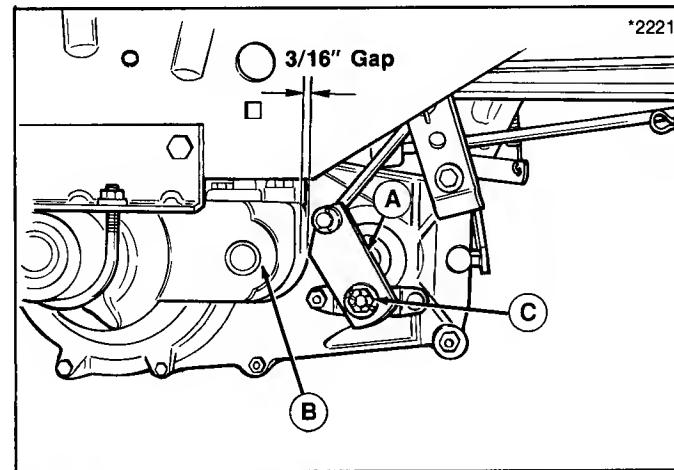
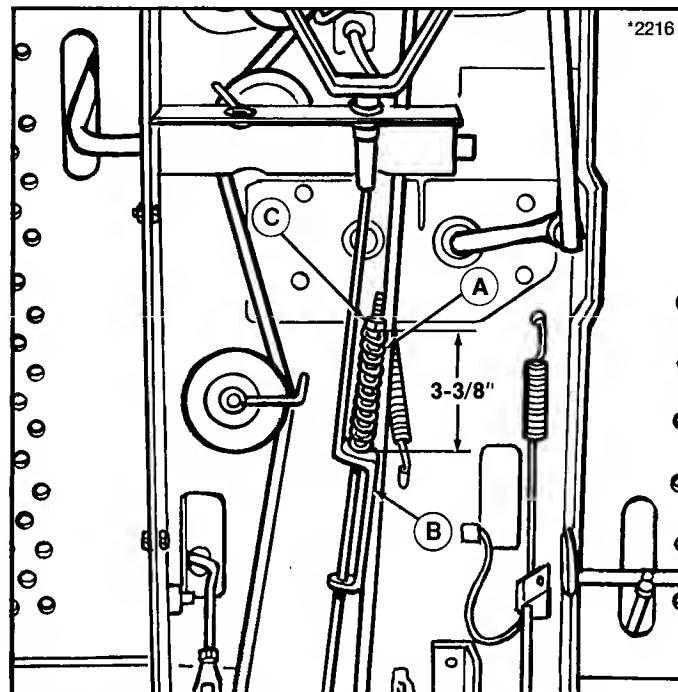

Figure 30. Brake Adjustment
Figure 31. Brake Spring Adjustment
1. With clutch/brake pedal released, rotate the brake cam (A, figure 30) forward until it stops. There should be $3/16$ " gap between transaxle housing (B) and rear point of brake cam.
2. If adjustment is required, remove cotter pin and turn adjusting nut (C) until proper $3/16$ " clearance is achieved. Turning the nut in will decrease clearance and turning the nut out will increase clearance. Reinstall cotter pin after adjustment.
3. Depress the clutch/brake pedal and latch parking brake over footrest. When compressed, the brake spring (A, figure 31) should be $3-3/8$ ", measured between the rod guide (B) and adjusting nut (C).